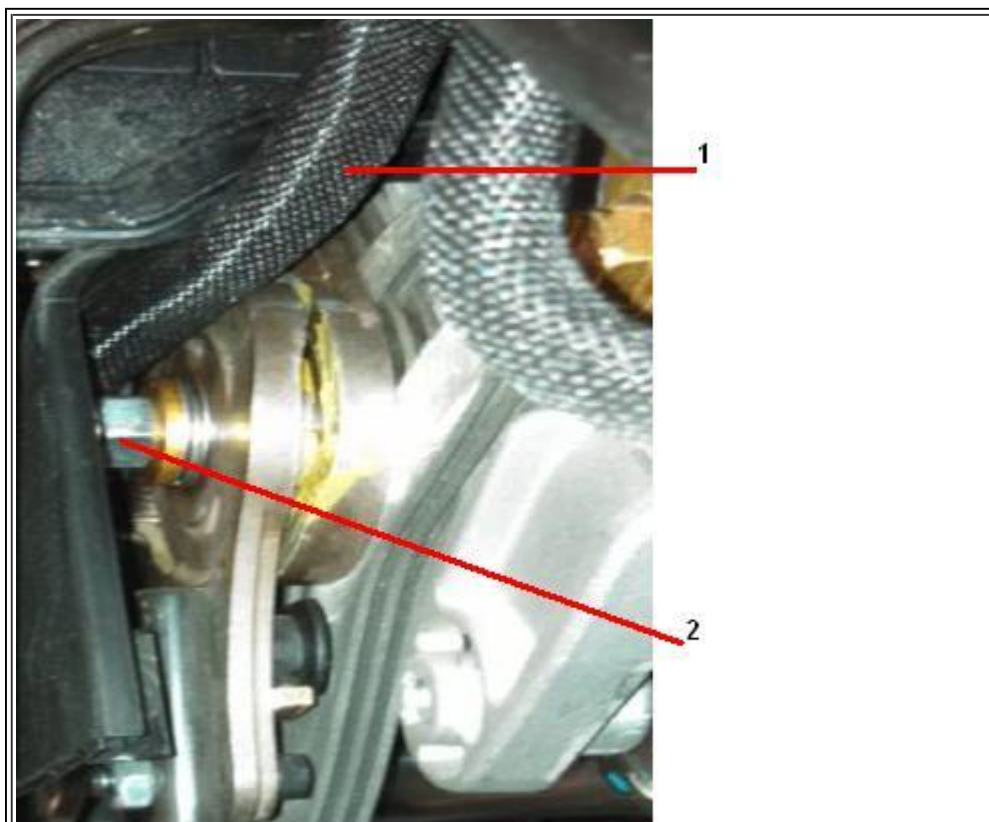

Figure 1: Harness Routing Inspection Point 1.
4. Inspect routing of steering column harness (Figure 1, Item 1) at steering column locking mechanism bolt (Figure 1, Item 2).
5. If steering column harness (Figure 1, Item 1), at steering column locking mechanism bolt (Figure 1, Item 2), is located on top of steering column locking mechanism bolt, re-position the